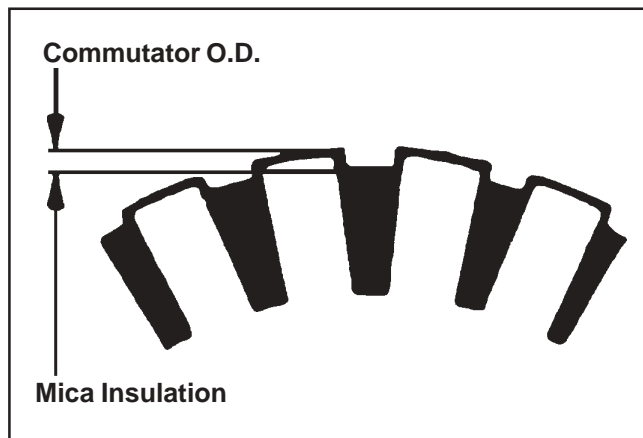

Figure 8-28. Commutator Mica Inspection.
- Clean and inspect the commutator (outer surface). The mica insulation must be lower than the commutator bars (undercut) to ensure proper operation of the commutator. See Figure 8-28.